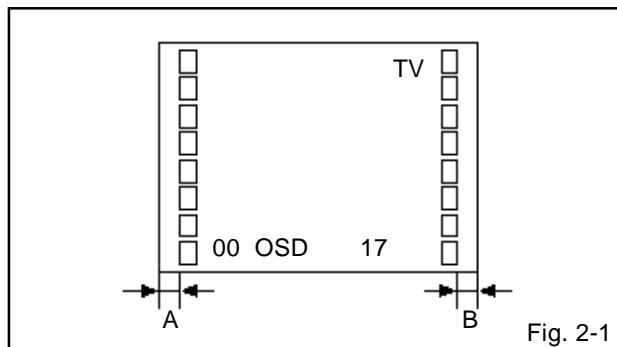

Fig. 2-1
2. Press the VOL. UP/DOWN button on the remote control until the difference of A and B becomes minimum. (**Refer to Fig. 2-1**)